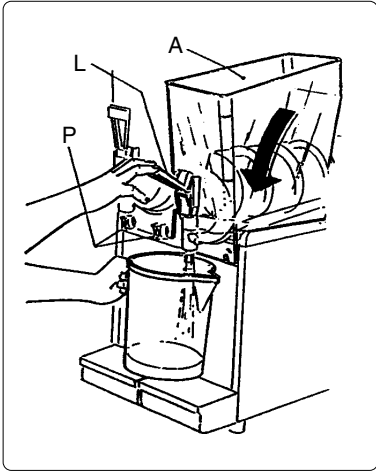

Fig. 10
a) unscrew the knobs (P), lower the tank (A), to eliminate all product residues through the outlet tap (see fig. 10).